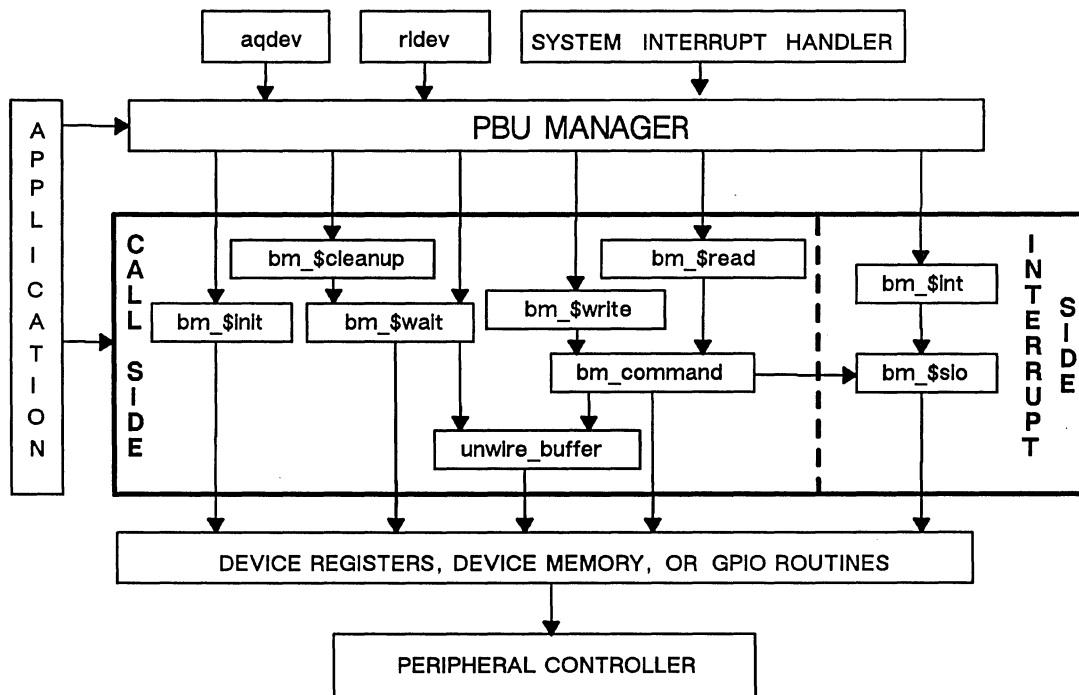

Figure 4-2. Driver Routines in `bm_example`
You may find the online sample driver in `bm_example` a good place to begin familiarizing yourself with a driver. In order to give you a feel for how it functions, the following paragraphs explain a typical DMA operation. The driver was written for a hypothetical bulk memory MULTIBUS device in order to illustrate the general design of a driver and to demonstrate the use of GPIO routines. For these reasons, the driver and the fictitious controller for which it was written were kept simple: the controller has five 8-bit registers and can perform read and write DMA operations. However, `bm_example` is a compilable functioning driver and includes all the major components. Figure 4-2 illustrates how these components relate to each other as well as to the application and GPIO routines. A slightly reorganized version of the `bm_example` driver appears in Appendixes E (C) and F (Pascal).